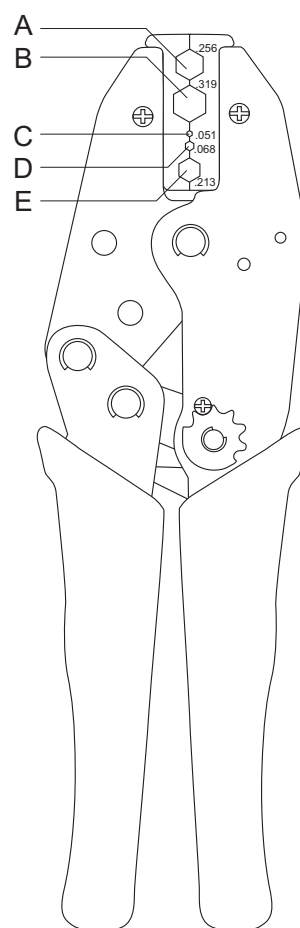
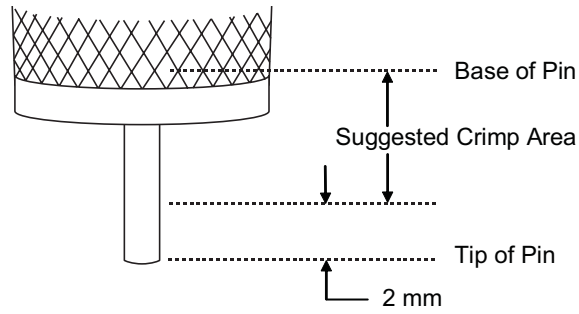

Figure 8. Motorola Crimping Tool 66-80388A26
Figure 9. Coaxial Cable Stripping Dimensions
Use Motorola tool part # 66-80388A26 (Refer to Figure 8).
4. Crimp center contact using crimp area C of Figure 8 . Crimp at base of center contact, avoid crimping at the tip. Refer to Figure 9.